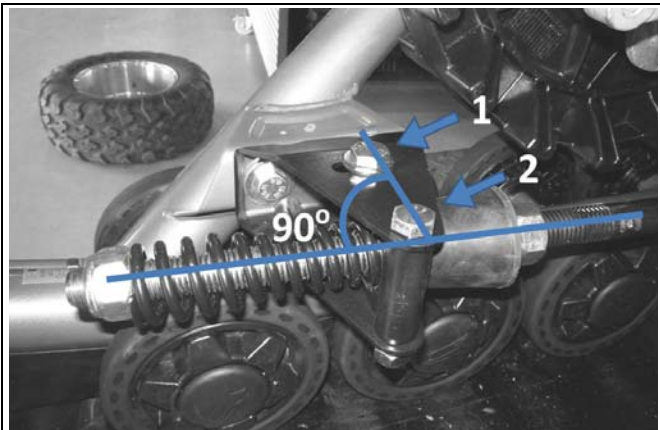

Figure 12
- Position the anti-rotation retainer at 90° (perpendicular) with the stabilizing rod. Tightened the two fixation bolts (1 and 2) of the bracket anti-rotation with a torque of 50 N-m. (See Figure 12).